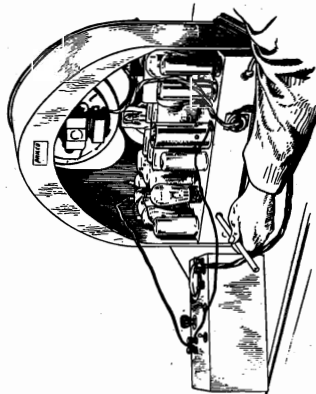

Fig. 1
1. Make the necessary connections between the oscillator and the receiver as shown in the illustration, Fig. 1. The connections consist of (a) the ground wire to the GND terminal of the radio set and to the G terminal of the oscillator; (b) the A terminal of the oscillator to the grid of the first detector tube (tube shield in place and first detector grid clip removed); (c) output meter terminals to the primary of the output transformer (this connection is obtained at the speaker plug and socket through the Philco plug-in adapter, part 6095); (d) power cord of receiver to the electric power outlet after all other connections have been completed.